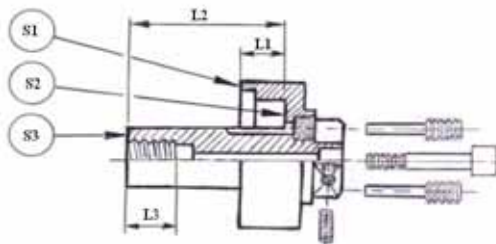

Fig.9
8) **SPECIAL NUT (FIG.9) ONLY FOR MAX PROP WITH ANTI-SHOCK DEVICE FOR SAIL DRIVE**